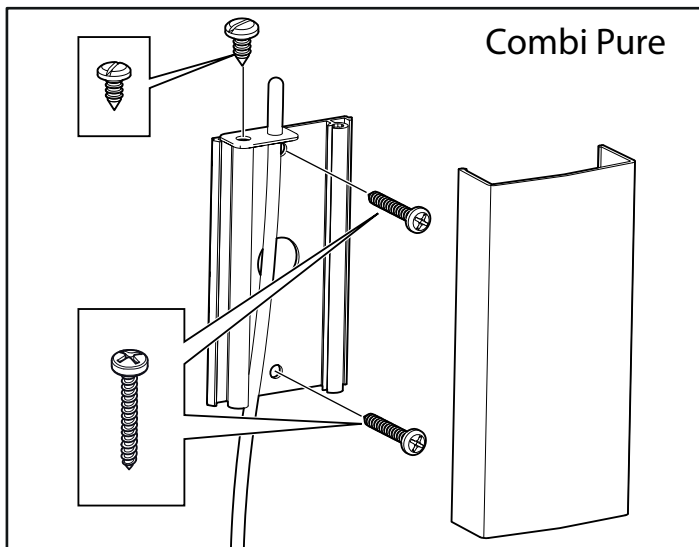
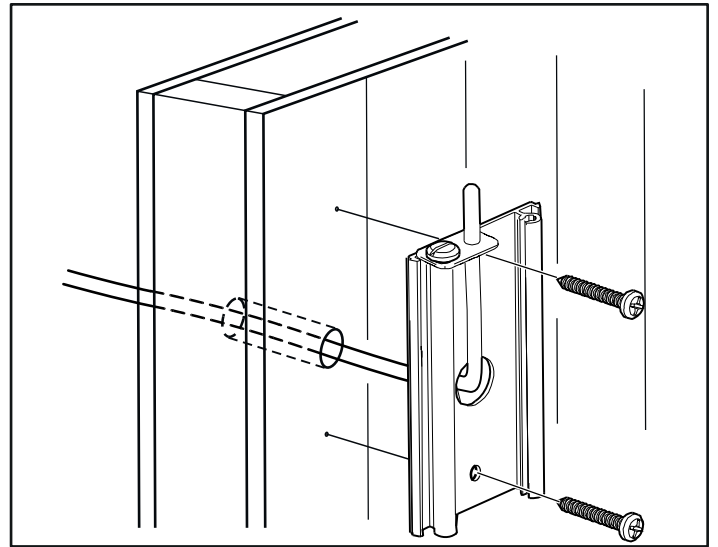

Figure 14: Installing the sensor - Combi Pure
Figure 16A: Wiring through the wall. The example shows the sensor for Combi Pure.
12. Install the sensor on the wall see Fig 14 and 15. The thermistor wire may also be passed through the wall see Fig 16A and 16B. Seal any holes in the wall behind the sensor. The thermistor wire may be extended outside the sauna using low voltage wire (2-lead).